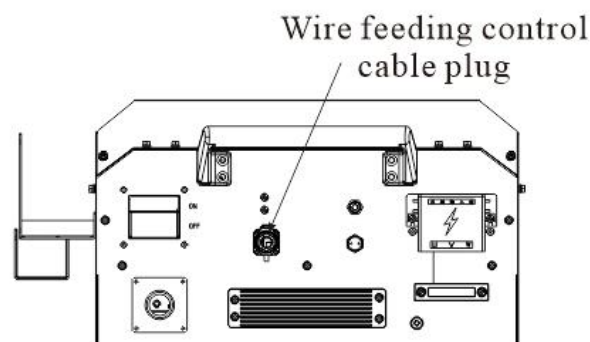

Figure 2-2 Connector for wire feeding signal control cable diagram
1. Connect the wire feeder signal control cable to the control cable connector and tighten it, as shown in Figure 2-2;